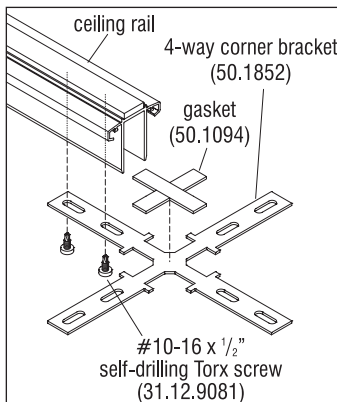

Figure 7 - 4-Way Corner, Step 1
3. Ceiling rail 4-way conditions are spliced using the 50.1851 splice kit (includes corner bracket 50.1852) (Figures 7, 8 & 9).